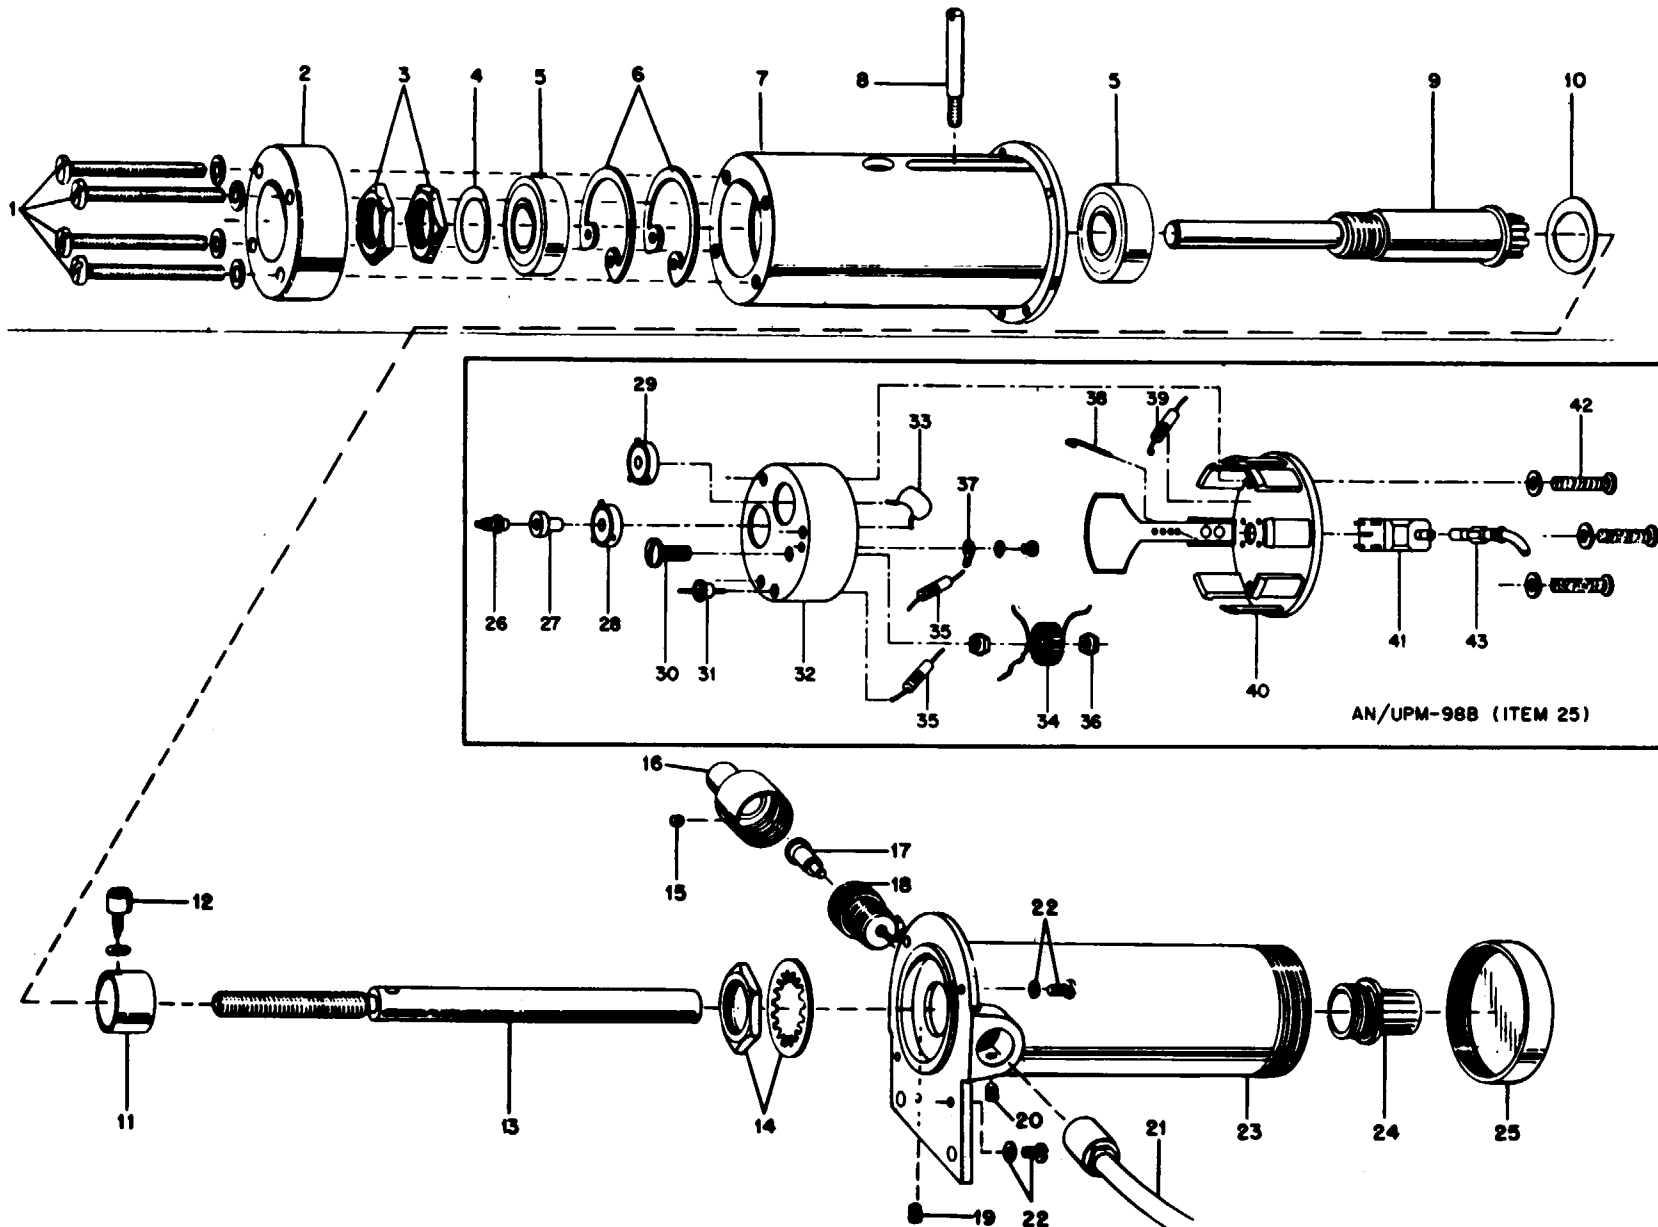

Figure 5-7. Wavemeter Assembly 8A3, Exploded View
(b) DISASSEMBLY. - To disassemble wavemeter assembly (figure 5-7), proceed as follows:
- Step 2. Remove plunger anti-rotate screw (item 8) with a screwdriver.
- step 3. Remove two locknuts (item 3) and washer (item 4), if present. Pull out attenuator shaft (item 9) and tuning stub (item 13) assembly. Separate the two by unscrewing.
- Step 4. Loosen setscrew (item 15), unscrew crystal holder cap (item 16), and remove crystal diode 8CR1 (item 17) from crystal holder (item 18).
- Step 5. Loosen setscrew (item 19) and remove crystal holder body (item 18) by unscrewing.
- Step 6. Loosen setscrew (item 20) and pull out input cable assembly 8W2 (item 21).
- step 7. Remove cover (item 5), unscrew nut with lockwasher (item 14), and remove tuning stub contact (item 24).
c. REASSEMBLY AND MOUNTING TO BASE PLATE. To reassemble the wavemeter 8A3 (figure 5-7), processed as follows:
- Step 1. Apply some of molybdenum disulphite grease to threads of lead screw (item 13). Thread on backlash nut (item 11) with setscrew and washer (item 12) in place.
- Step 2. Place spring washer (item 10) on shoulder of shaft (item 9) and thread half way on lead screw. Tighten back-
- lash nut (item 11) until the shaft can be turned with 5 to 7 inch-ounce torque. Tighten backlash setscrew (item 12) so that it enters a slot on the shaft. Re-check torque.
- step 3. Insert Truarc retaining rings (item 6) into housing and install ball bearings (item 5) seating against the retaining rings.
- step 4. Install shaft and lead screws into housing. Tighten locknuts (item 3) so that shaft has no end-play and torque is between 15 to 20 inch-ounce.
- step 5. Install anti-rotate screw (item 8) through slot in housing.
- Step 6. Install contact (item 24) into cavity (item 23) and fasten with nut and lockwasher (item 14).
- Step 7. Apply a thin coat of molybdenum disulphite to tuning stub (item 13) protruding from housing. With flanges as in figure 5-7, insert tuning stub into contact (item 24). Fasten cavity and housing together with five screws and washers (item 22).
- Step 8. Inspect the wire loop on the marrow end of crystal holder body (item 18). Do not distort the loop; a No. 22 drill should slip through it, Thread the crystal holder into cavity (item 23), orient coupling loop, parallel to axis of the tuning stub; with grounded part of the loop toward the gear train. Fasten setscrew (item 19). Insert crystal 8CR1.